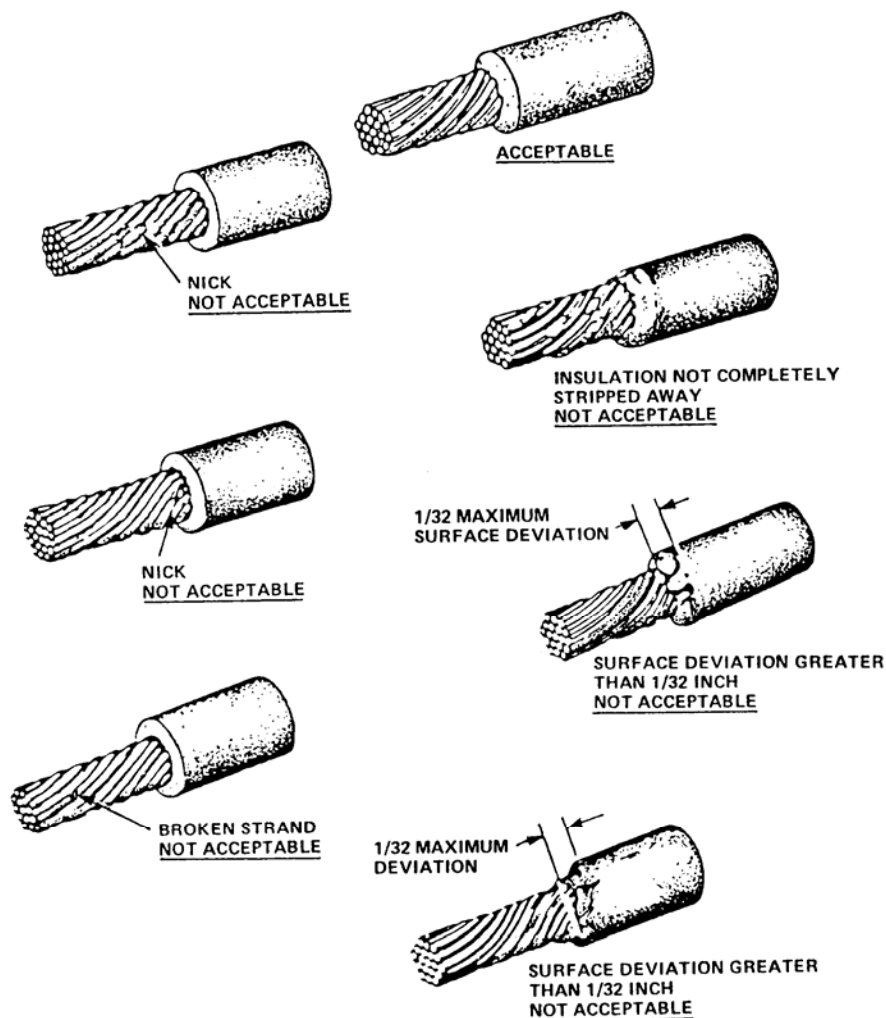

Figure A-12. Wire Conditions after Stripping
- c. Examination. After stripping, examine the wire for insulation damage. Do not use wires with cut, split, or burned insulation. However, slight discoloration from thermal stripping is acceptable. Examine wire strands for stretching, nicks, cuts, scrapes, or other damage that degrades connection reliability. Figure A-12 shows acceptable and unacceptable wire conditions after stripping.